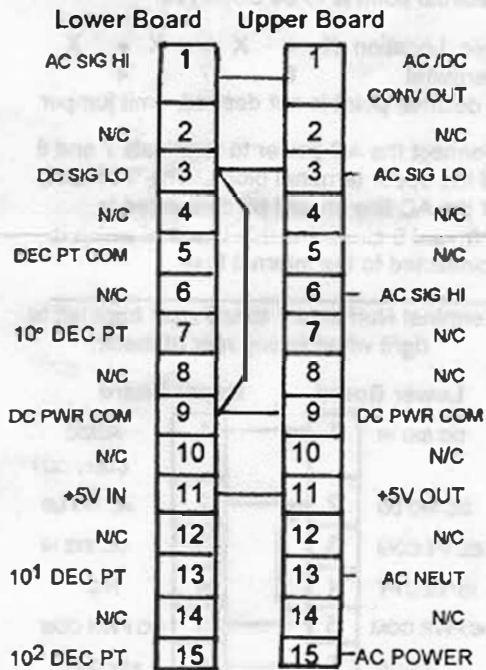

Figure 3.
**Wiring** - Figure 3 provides wiring information for the connectors. Connect contacts 1, 3, 9 and 11 of the upper connector to the corresponding contacts on the lower connector. Jumper pins 3 and 9 of the lower connector. Connect the AC voltage to be measured to the contact 3 and 6 of the upper connector (Signal HI to 6 and Signal LO to 3). To display a decimal point, jumper between contact 5 and contact 7, 13 or 15 on the lower connector, depending upon which decimal point is to be displayed.